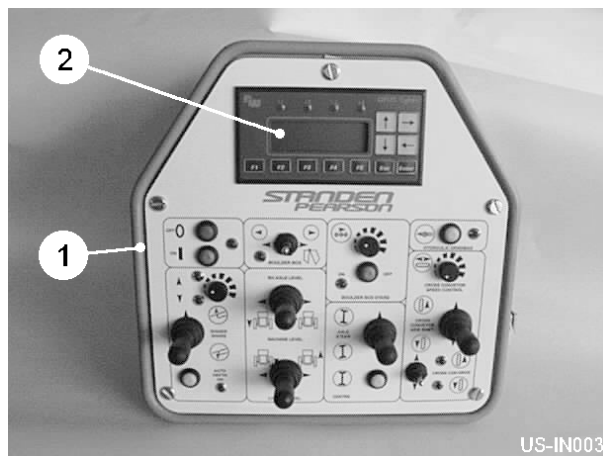

Fig 5
Control for the major functions of the Standen Unistar 2400 are provided electronically by the switches mounted on the in-cab control box (item 1, fig 5) switching the valves on the machine via a CAN-Bus control system. The functions can be monitored from the control box display screen (item 2, fig 5). Setting and monitoring can be carried out by following the instructions in the CAN-Bus operating instructions.